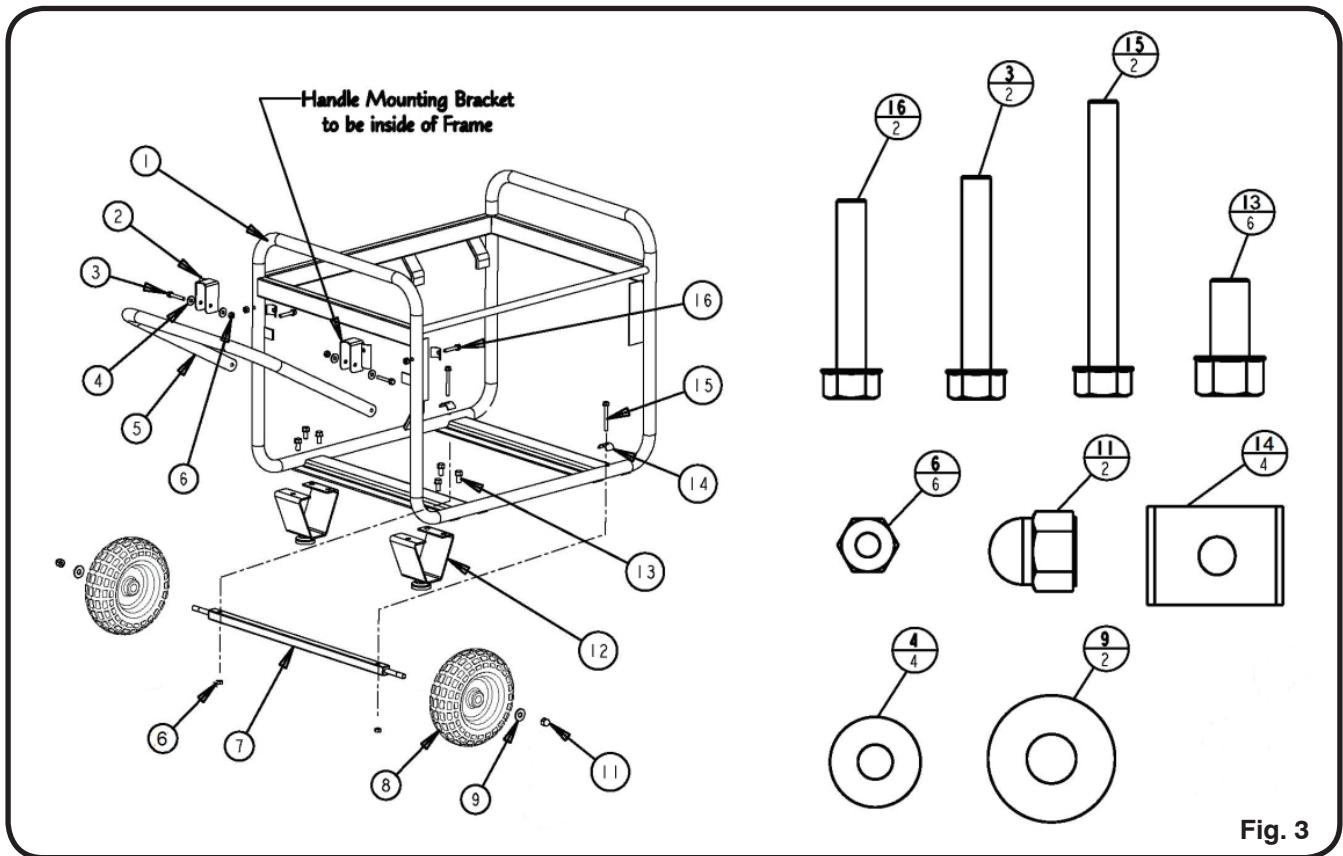

Fig. 3
The following assembly hardware items are included with the generator. (See Figure 3.)
- Make sure that all items listed in the unassembled parts list are included. (See Figure 3.)